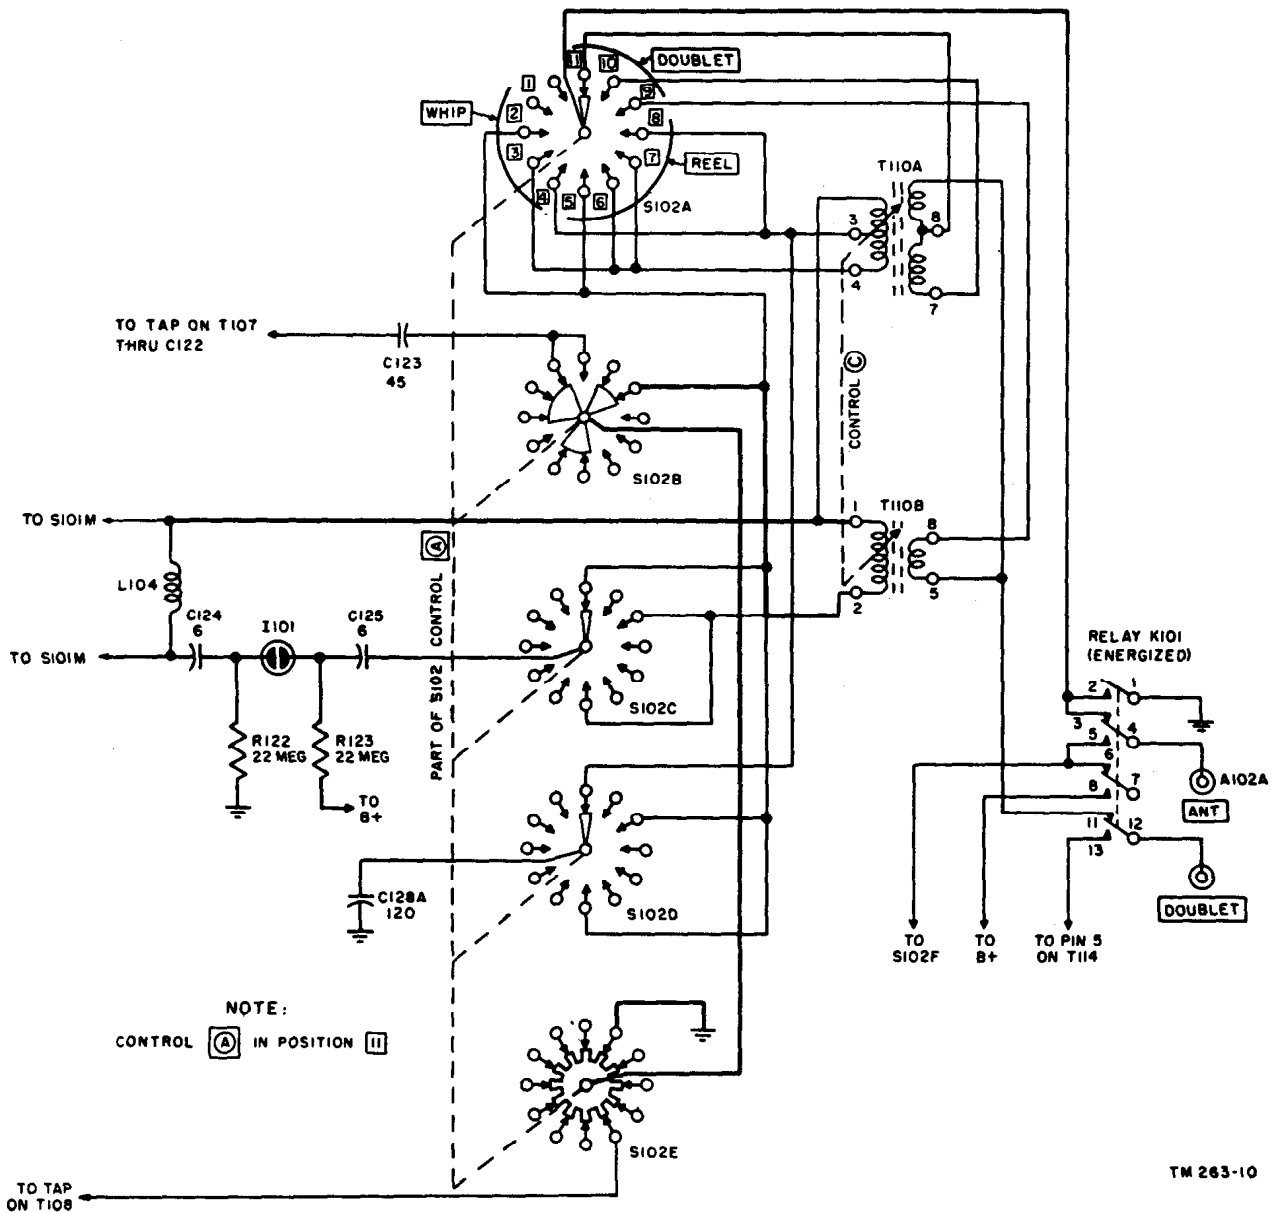

Figure 81. Antenna switching and tuning circuits.
c. *Switch Section S101M.* Plate output selector switch section S101M selects the output from the plate coil in use and leads the signal to the top of L104 in all positions. For the continuation of this figure, see figure 81.
(fig. 81)